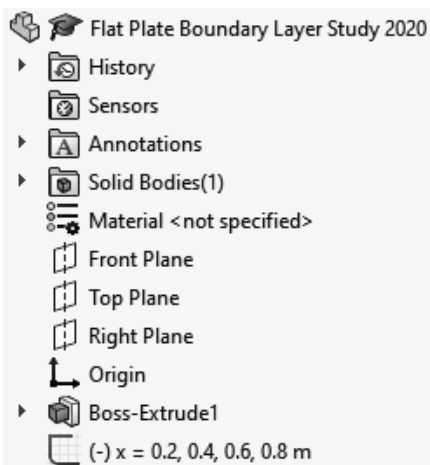

Figure 2.8 Renaming the sketch for boundary layer velocity profiles
8. Repeat steps 6 and 7 three more times and add three more vertical lines to the sketch, the second line at X = 400 mm with a length of 40 mm, the third line at X = 600 mm with a length of 60 mm and the fourth line at X = 800 mm with a length of 80 mm. These lines will be used to plot the boundary layer velocity profiles at different streamwise positions along the flat plate. Close the **Line Properties** dialog  and the **Insert Line** dialog. Save the SOLIDWORKS part with the following name: **Flat Plate Boundary Layer Study 2020**. Rename the newly created sketch in the **FeatureManager design tree**, see figure 2.8. You will need to left click twice to rename the sketch.